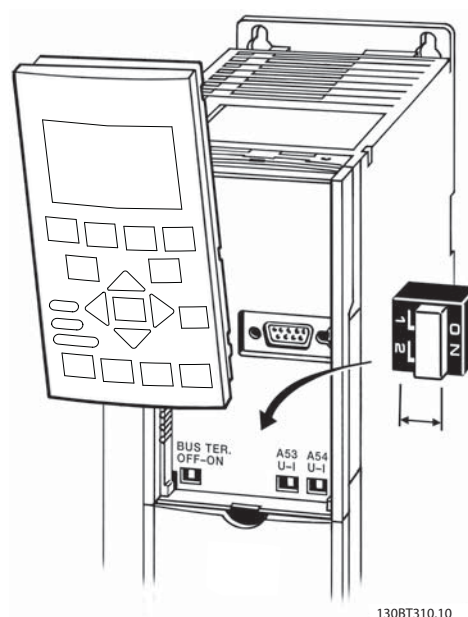

Figure 2.17 Location of Terminals 53 and 54 Switches and Bus Termination Switch
- The switches are accessible when the Keypad has been removed (see *Figure 2.17*). Note that some option cards available for the unit may cover these switches and must be removed to change switch settings. Always remove power to the unit before removing option cards.